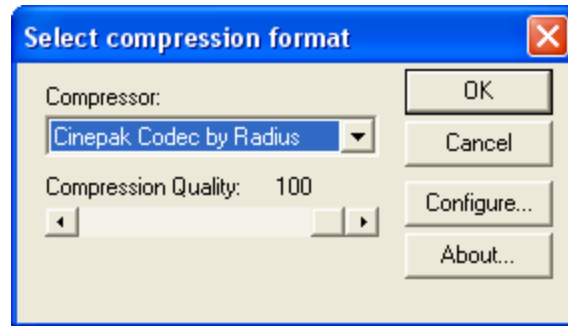

Figure 160: Select compression format
7. From the dialog box illustrated in Figure 160, select **Microsoft Video 1** from the **Compressor** list and click **Ok** button.